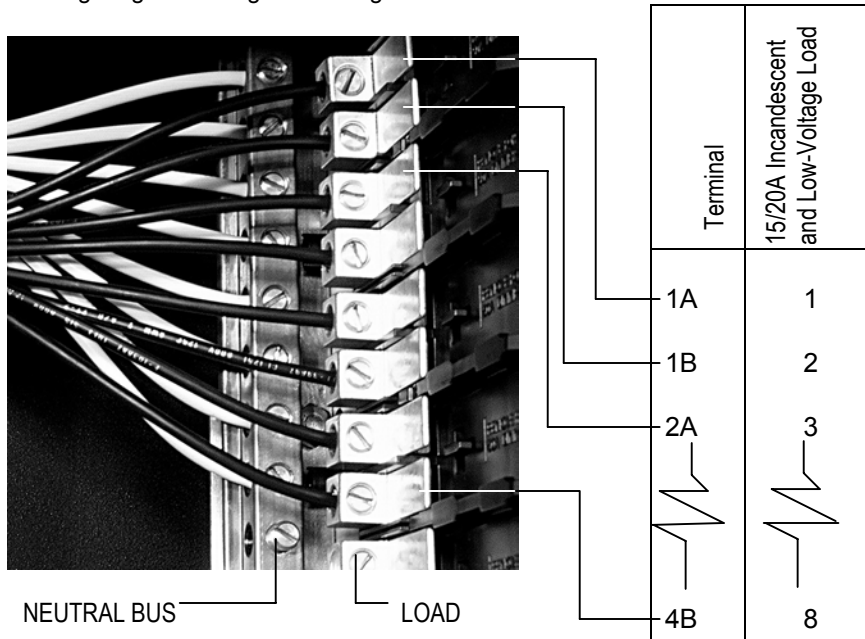

Figure 4 – Load Terminal Wiring
- Referring to Figure 4, connect the load conductor for the first (upper) dimmer to the upper load terminal, and the second load conductor to the lower load terminal. Terminate their respective neutral conductors to the adjacent neutral terminals located directly behind the load lug. Tighten all lugs according to Table II.